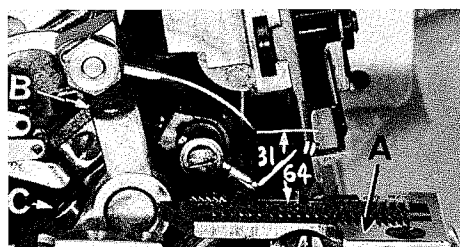

Fig. 3
With throat plate assembled in position, needles should center in the front end of needle slots. When needles are at high position, needle points should be set 31/64 inch above throat plate (A, Fig. 3). To align needles or set the height above the throat plate, move needle driving arm (B, Fig. 3) by loosening clamp screw (C). Remove throat plate, after needle has been set properly and clamp screw (C) has been tighten.